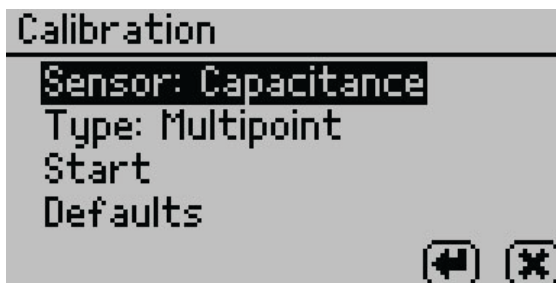

Figure 63 Capacitance sensor calibration screen
2. Select Calibration from the Configuration tab (Figure 63).